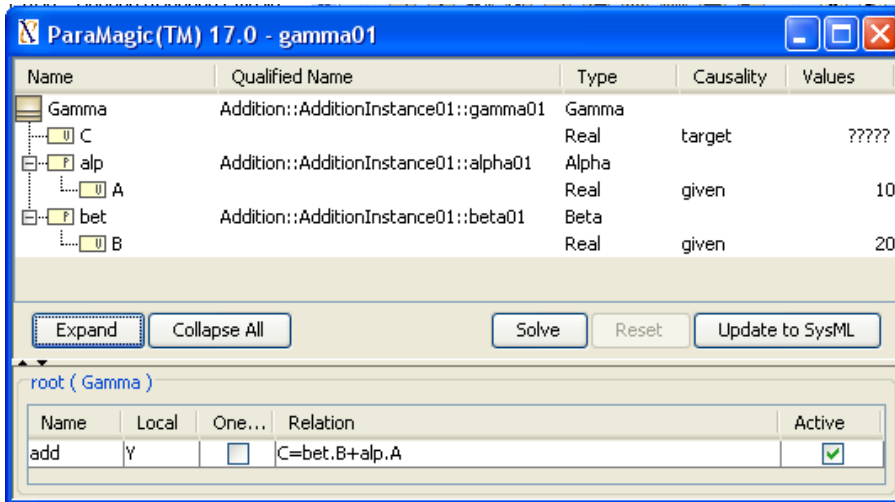

Figure 2.25 ParaMagic Browser window
- b. Select ParaMagic→Browse. Expand the **alp** and **bet** part properties in the browser (click the + sign beside them) and it should appear as in Figure 2.25.